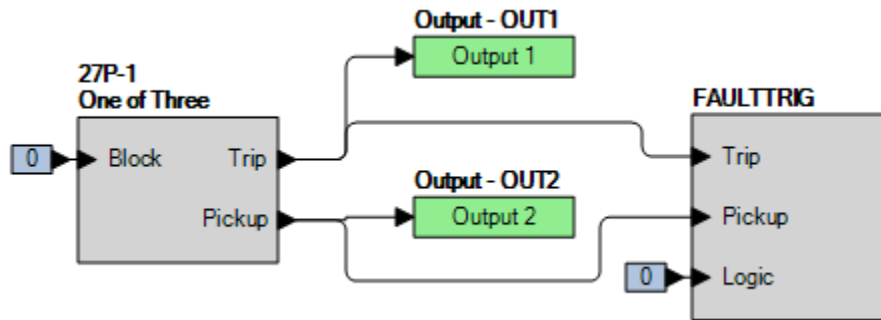

Figure 57-1. BESTlogicPlus Settings
Step 2: Use BESTCOMSPi.us to configure the BESTlogicPlus programmable logic shown in Figure 57-1.
Step 4: Prepare to monitor the 27P-1 function operation. Operation can be verified by monitoring OUT2 (see Figure 57-1).